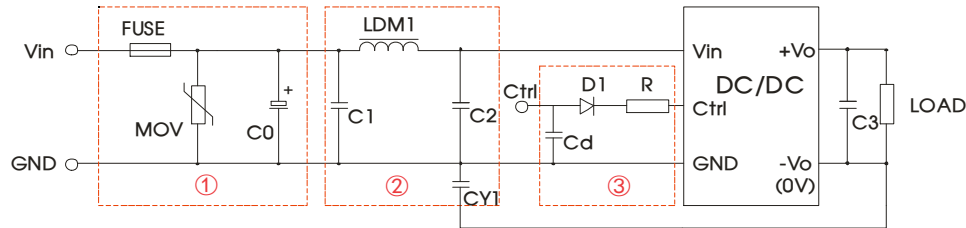

Fig 3
- ① For EMC tests we use Part ① in Fig. 3 for immunity and part ② for emissions test. Selecting based on needs;
- ② VC is the voltage of the Ctrl end relative to the GND of the input grounding; VD is the positive-going conduction pressure drop of D1; IC is the current flows into the Ctrl end and its value is generally 5-10mA, see Fig. 3-③ for the peripheral circuit of Ctrl end;
- ③ If there is no recommended parameters, no external component is required;